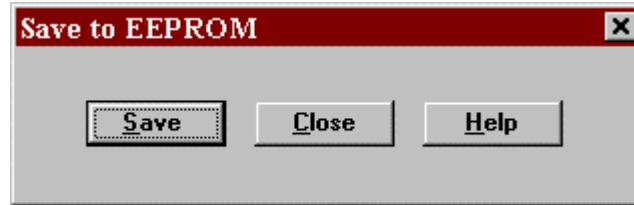

FIGURE 4.30 Save to EEPROM Dialog Box
- Select **Save** in the *Save To EEPROM* dialog box (FIGURE 4.30).